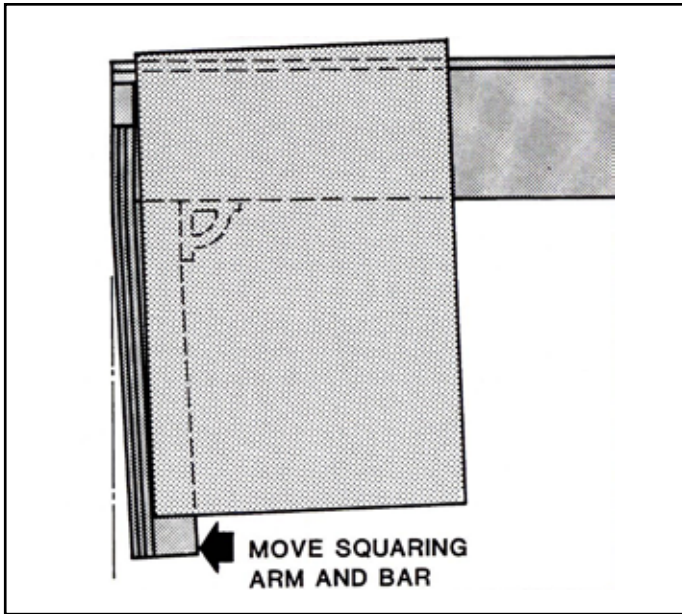

Figure 9-16 - Align Squaring Arm Guide and Bar
- a. Loosen or remove anchor bolts for the squaring arm support leg. Loosen the bolts which fasten the squaring arm gusset to the table and the squaring arm guide. Move the squaring arm guide to the left as shown in Figure 9-16 until the sheared edge is tight against the squaring arm bar full length. Remove the full length sheet. If possible, reinstall and tighten the support leg anchor bolts. If new anchors for bolts are required, do not install at this time.